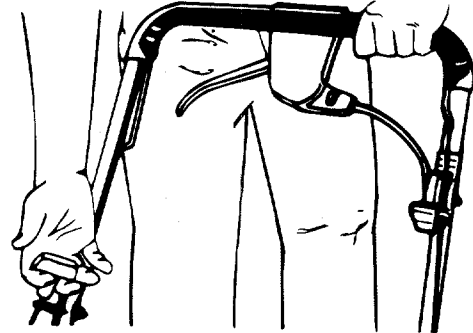

FIGURE 11.
3. Standing behind the unit, depress the blade control handle and hold it against the upper handle as shown. See figure 11.
4. Grasp starter handle (see figure 11) and pull rope out slowly until engine reaches start of compression cycle (rope will pull slightly harder at this point). Let the rope rewind slowly.